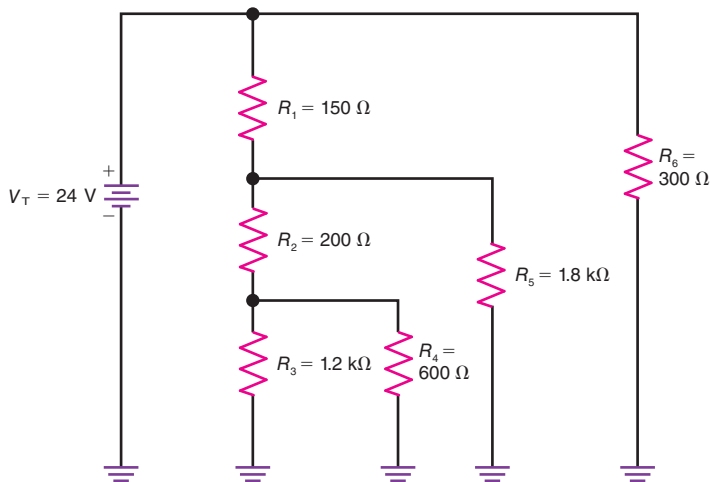

Figure 7-27
7.14 In Fig. 7-27, solve for R_T , I_T , V_1 , V_2 , V_3 , V_4 , V_5 , V_6 , I_1 , I_2 , I_3 , I_4 , I_5 , and I_6 .